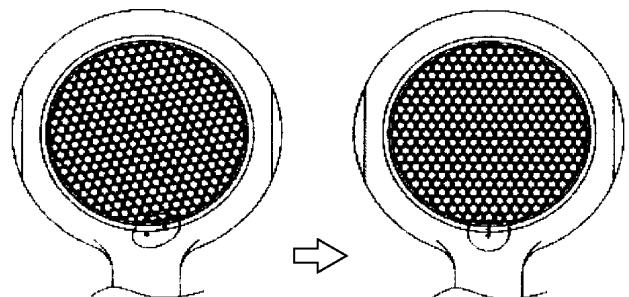

Figure 9
13. Assemble air inlet grill into back housing by aligning mark of air inlet grill mush and mark of back housing as shown in Figure 9.